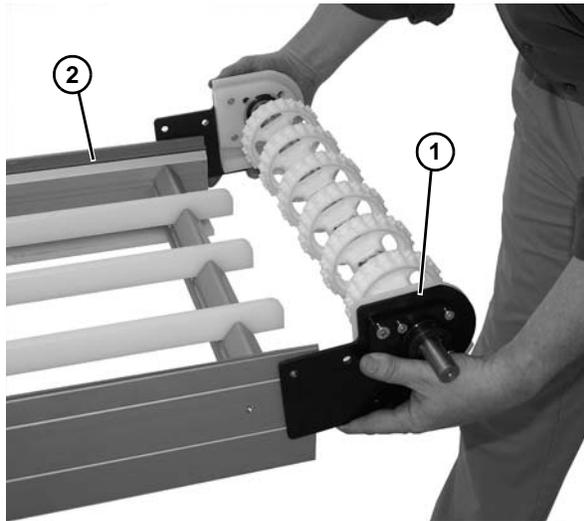

Figure 36
3. Remove the drive tail assembly (Figure 36, item 1) from the frame (Figure 36, item 2).